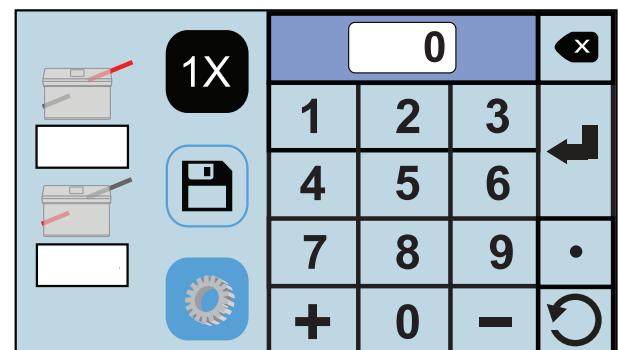

Fig. 62
2. Select the upper fold plate icon “” to adjust the fold stop position for the first fold (the icon will turn a dark gray when selected). Using the touch pad, key in the number or use the “=” and “-” keys to make the adjustment for the first fold stop position (Fig. 62). Press the enter key “” to enter the measurement. The white box under the icon will show the measurement entered.